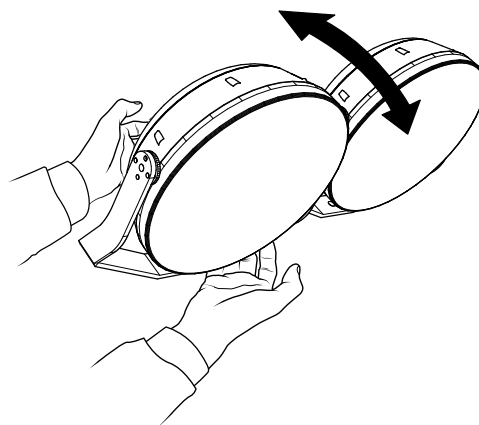

Figure 11. Adjusting Angle of Light
1. Hold the lamp and tilt it to the desired direction (Figure 11).